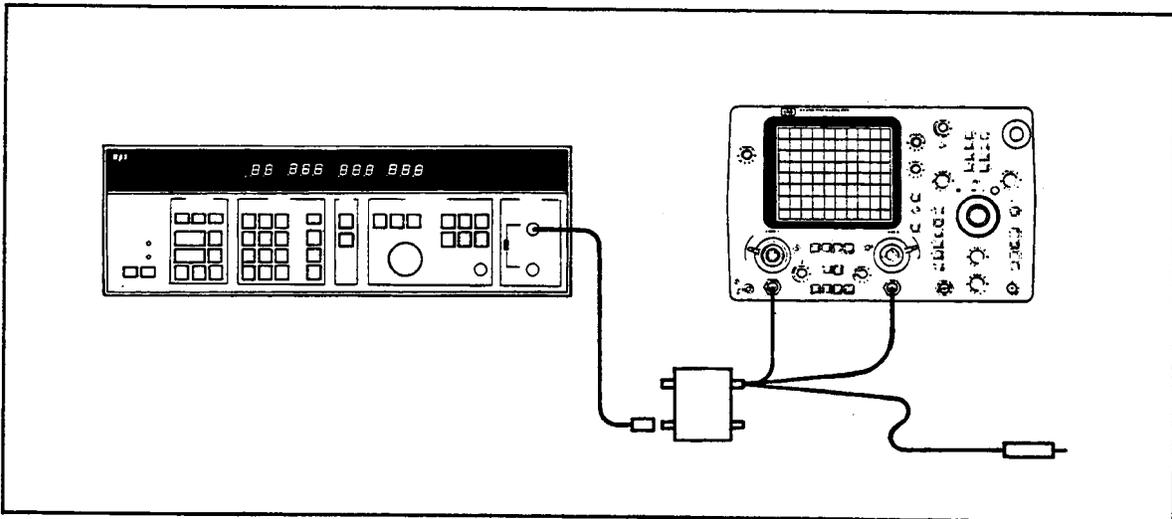

Figure 4-2. Probe Operation Check Setup
3. Connect the oscillator output to 41941A or B **TO OUTPUT SINGLE** connector, 41941A or B's shortest (white) cable to oscilloscope's **CHAN A**, the longest (black) cable to **CHAN B** as shown in Figure 4-2. Leave the probe tip open.